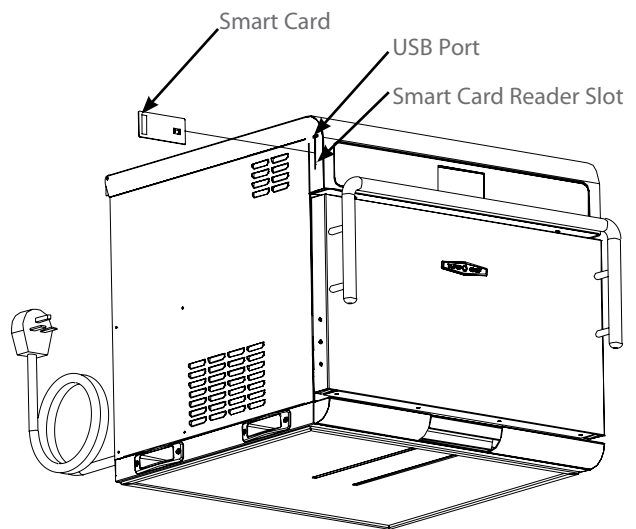

Figure 26: Inserting Smart Card/USB Device
1. Insert the smart card (Figure 26).
3. Insert the USB drive (Figure 26).
1. Insert the USB drive (Figure 26).
1. Insert the smart card (see Figure 26). If multiple smart cards are required, ensure the correct smart card is loaded first.